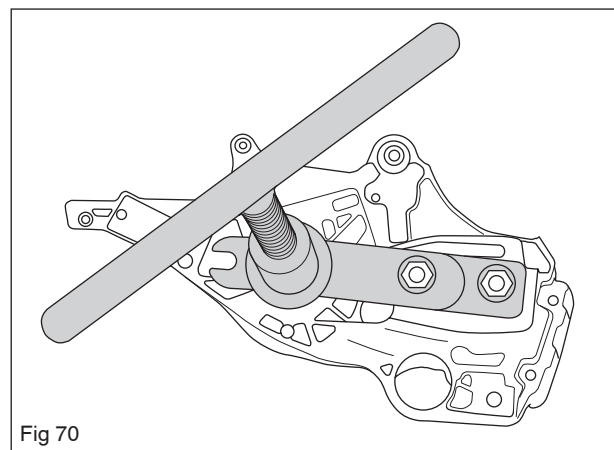

Fig 70
4. Fit tool 575 28 69-01 as outlined in figure 70.